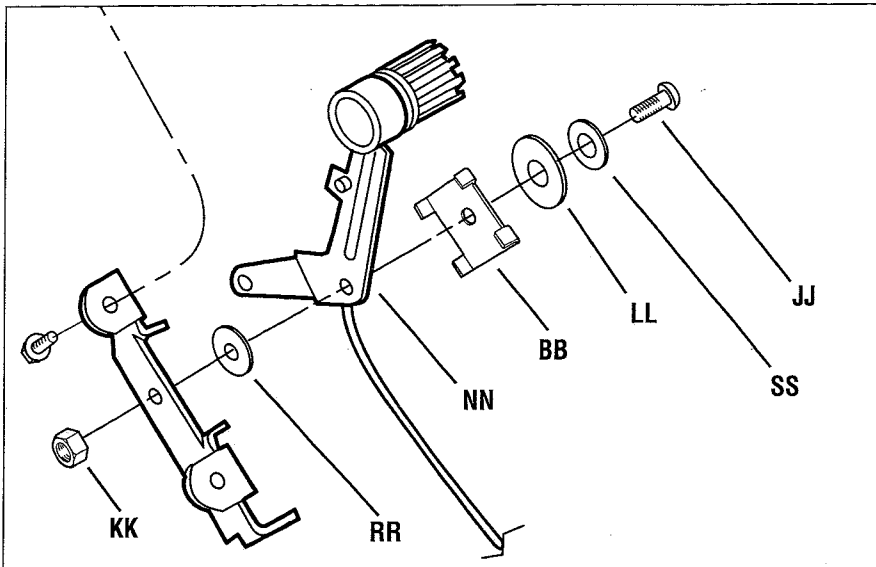
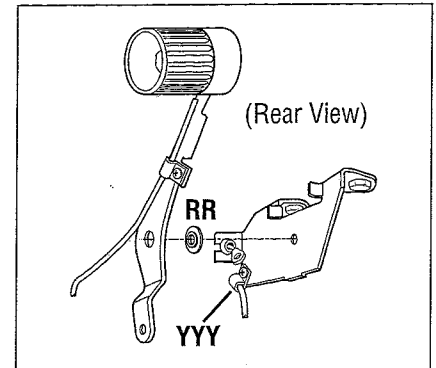

Fig. 7
Fig. 8
4. Disassemble the speed control assembly by using a 3/8", 7/16", and 5/16" wrenches and a 5/32" allen key. Refer to Fig. 7. Remove the button head screw (JJ), belleville washer (SS), flat washer (LL), bracket clamp (BB), nylon bushing (RR), control arm (NN), and top locknut (KK). Discard the top locknut and control arm. Remove the 5/16" screw and locknut that hold the cable clamp (YYY, Fig. 8) to the speed control bracket. Save the screw. Remove the black decal on the console. Remove speed cable.
2. Refer to Fig. 7. Place the cable to the left of the mounting bracket and reassemble the speed control assembly with the plastic washer (RR) against the mounting bracket. (Be sure the shoulder of the plastic washer is facing the drive control arm.) Install the speed control arm
3. Mount the cable clip (YYY, Fig. 8), located on the speed control cable, to the left side of the mounting bracket by using the original hex head screw and a new locknut.